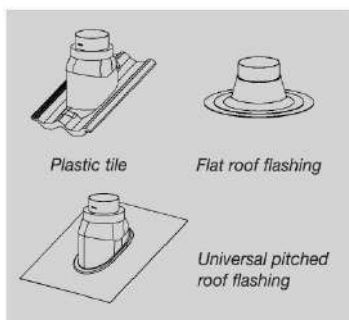

Figure 4.17 Fire stop Weather collar
2. Choose the appropriate weather collar in accordance with the roofing. For pitched roofs choose synthetic tile, universal pitched roof flashing. For flat roofs choose aluminium flat roof flashing. See figure 4.17.